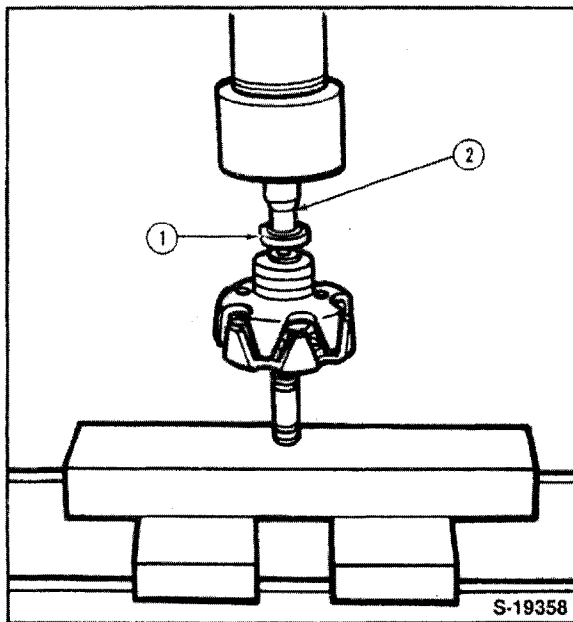

Figure 97
1. If the rotor shaft bearings were removed, install the bearings using a suitable size driver that contacts the bearing inner race only, Figure 97.